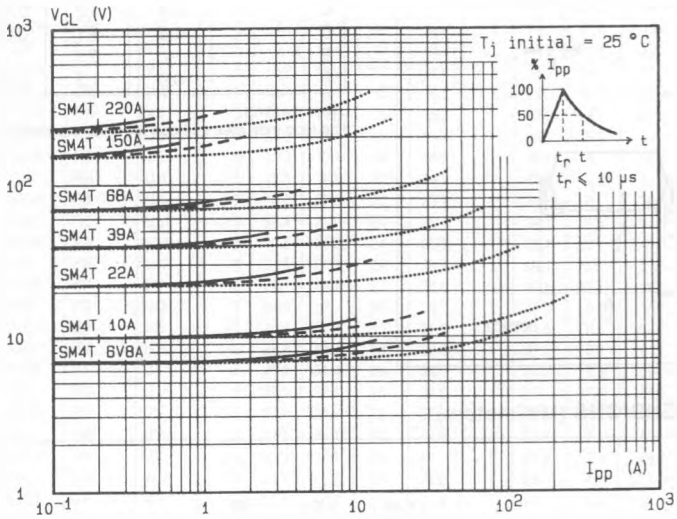

Fig.2 - Clamping voltage versus peak pulse current.
Note : The curves of the figure 2 are specified for a junction temperature of  $25\text{ }^\circ\text{C}$  before surge. The given results may be extrapolated for other junction temperatures by using the following formula :  $\Delta V (BR) = \alpha_T (V (BR)) \times [T_j - 25] \times V (BR)$